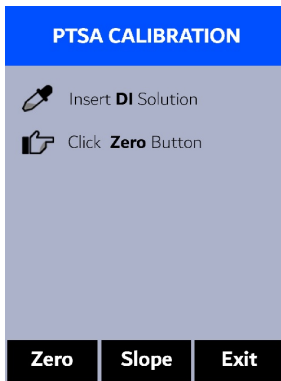

Figure 3.
4. Press **P-Cal** (  or  ) to launch the **PTSA CALIBRATION** screen (Figure 3).